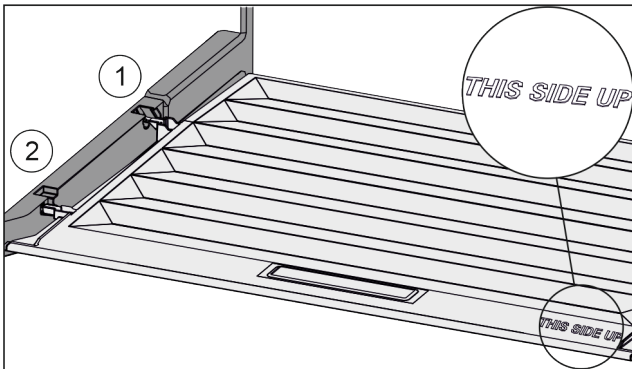

Fig. 146
- ▶ Insert the lip of the cover over the opening of the rear bracket Fig. 146 (1) and click into place Fig. 146 (2).